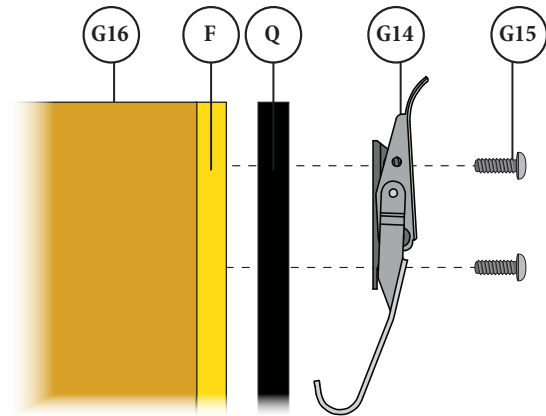

FIG. 6
Align the Latches (G14) onto the holes on either side of the Mounting Bracket (F) and the holes on either side of the Cart Body (Q). Secure them in place using two Pan-Head Screws (G15) and Nylock Nuts (G16) [FIG 6].